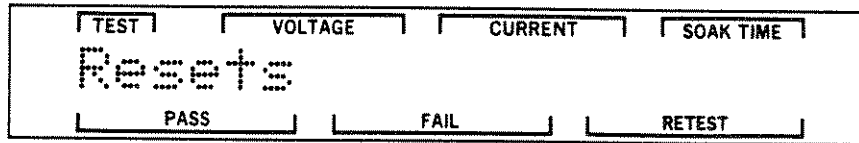

Figure 7-58. Reset Entry Screen
STEP 8. Press the UP or DOWN pushbutton until the Reset Entry screen is displayed. Figure 7-58 is an illustration of this screen.